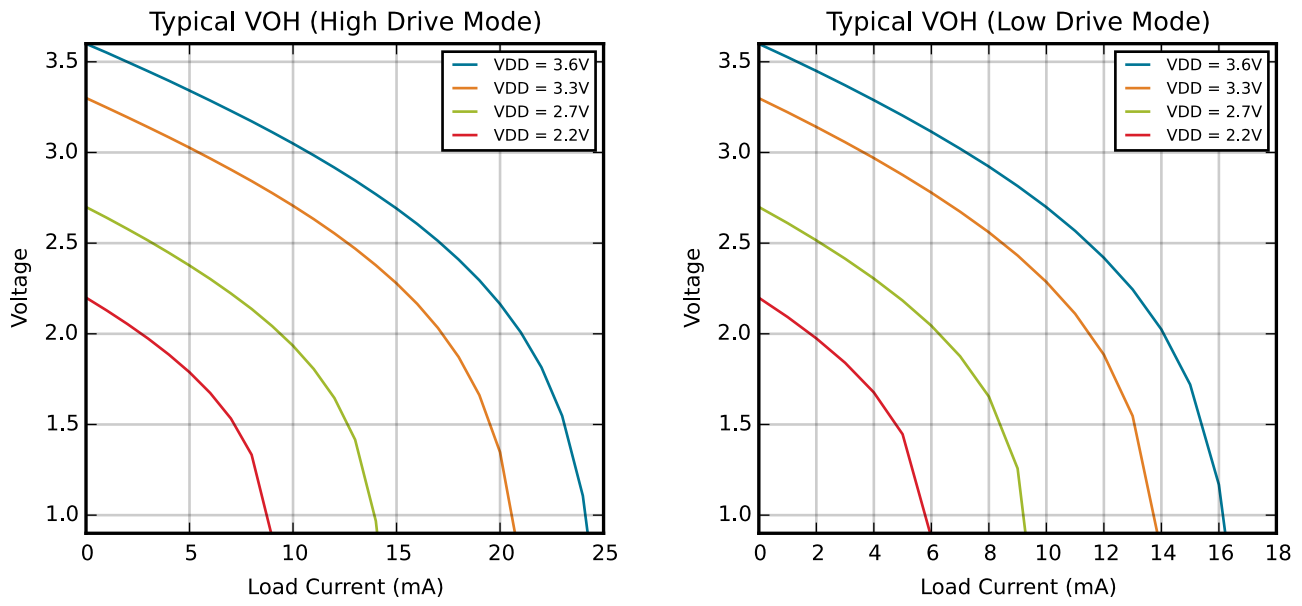
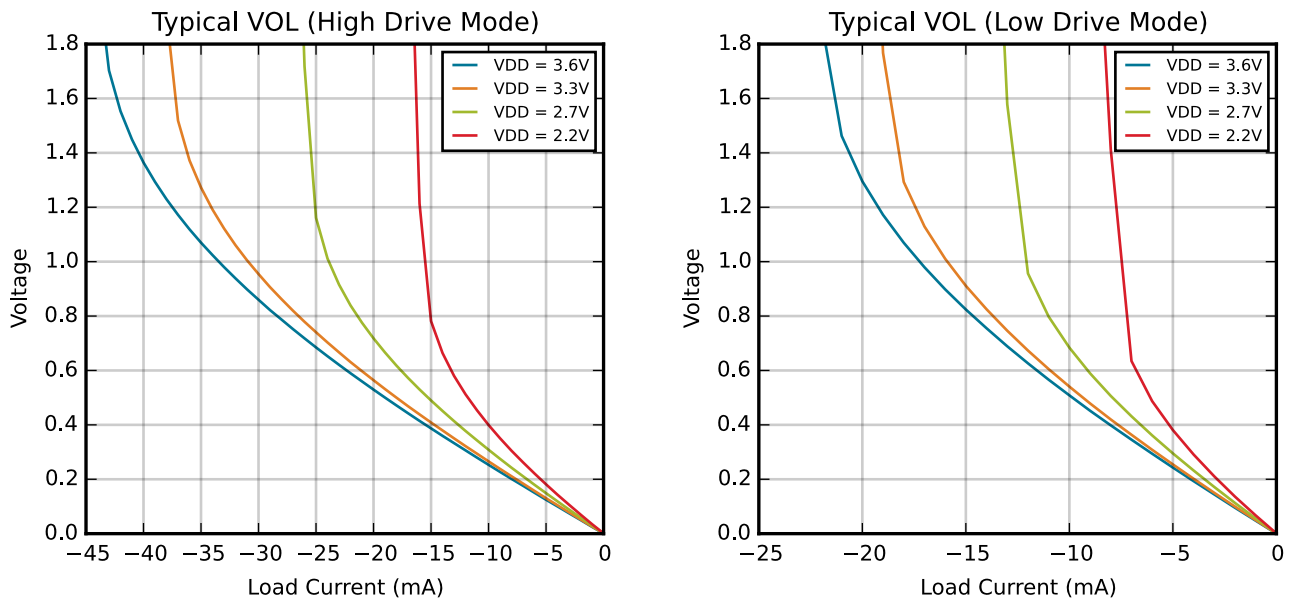

Figure 4.6. Typical VOH Curves
Figure 4.7. Typical VOL Curves
1. See Figure 4.6 Typical V_{OH} Curves on page 32 and Figure 4.7 Typical V_{OL} Curves on page 32 for more information.